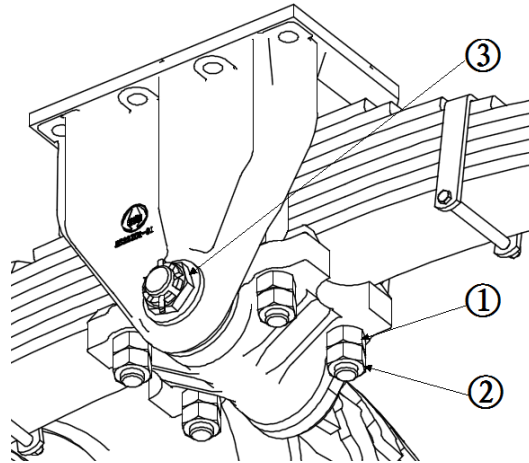

Figure 20 Showing the Position of the U- Bolt nuts, the Central Nut and the grease point.
2. Tighten the central nut to a torque of 300-400 Nm, this is shown as No.3 in Figure 20